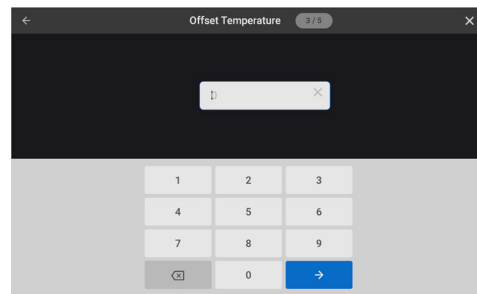

Figure 21: Input Idle Offset
5. Input the “idle” offset temperature and touch the blue arrow button to continue (Figure 21).